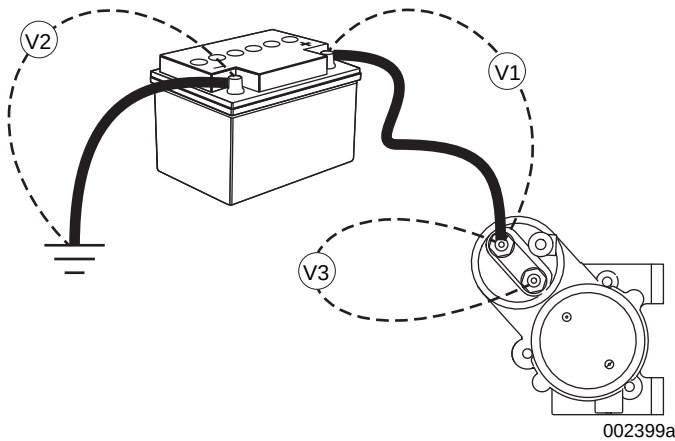
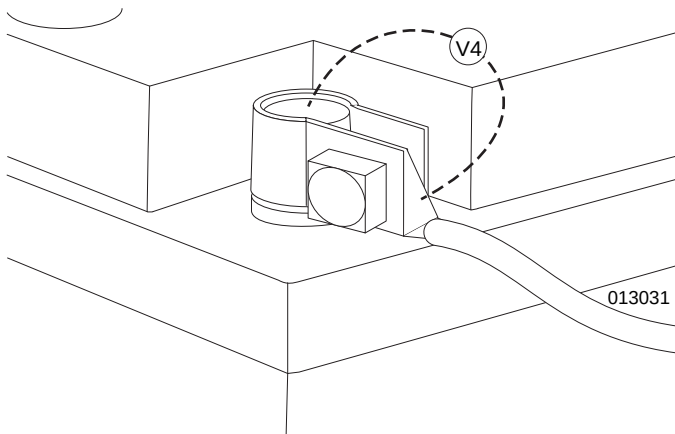

Figure 10-3. Starter Circuit Voltage Drop Test
Figure 10-4. Starter Circuit Voltage Drop Test
3. Set the controller to MANUAL. Measure and record the voltage at test points V1, V2, V3, and V4 as depicted in Figure 10-3 and Figure 10-4.